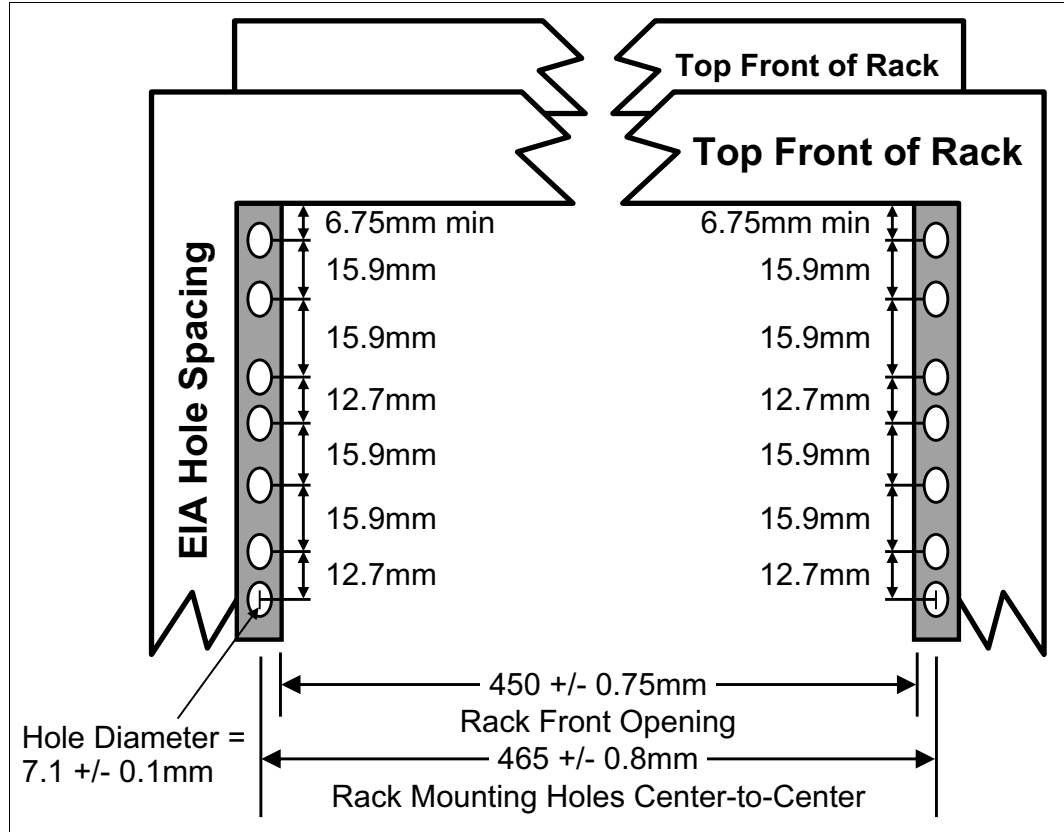

Figure 1-11 Rack specification dimensions - top front view
- ▶ The vertical distance between the mounting holes must consist of sets of three holes spaced (from bottom to top) 15.9 mm (0.625 in.), 15.9 mm (0.625 in.), and 12.67 mm (0.5 in.) on-center, making each three-hole set of vertical hole spacing 44.45 mm (1.75 in.) apart on center. Rail-mounting holes must be 7.1 mm ± 0.1 mm (0.28 in. ± 0.004 in.) in diameter. Figure 1-11 shows the top front specification dimensions.